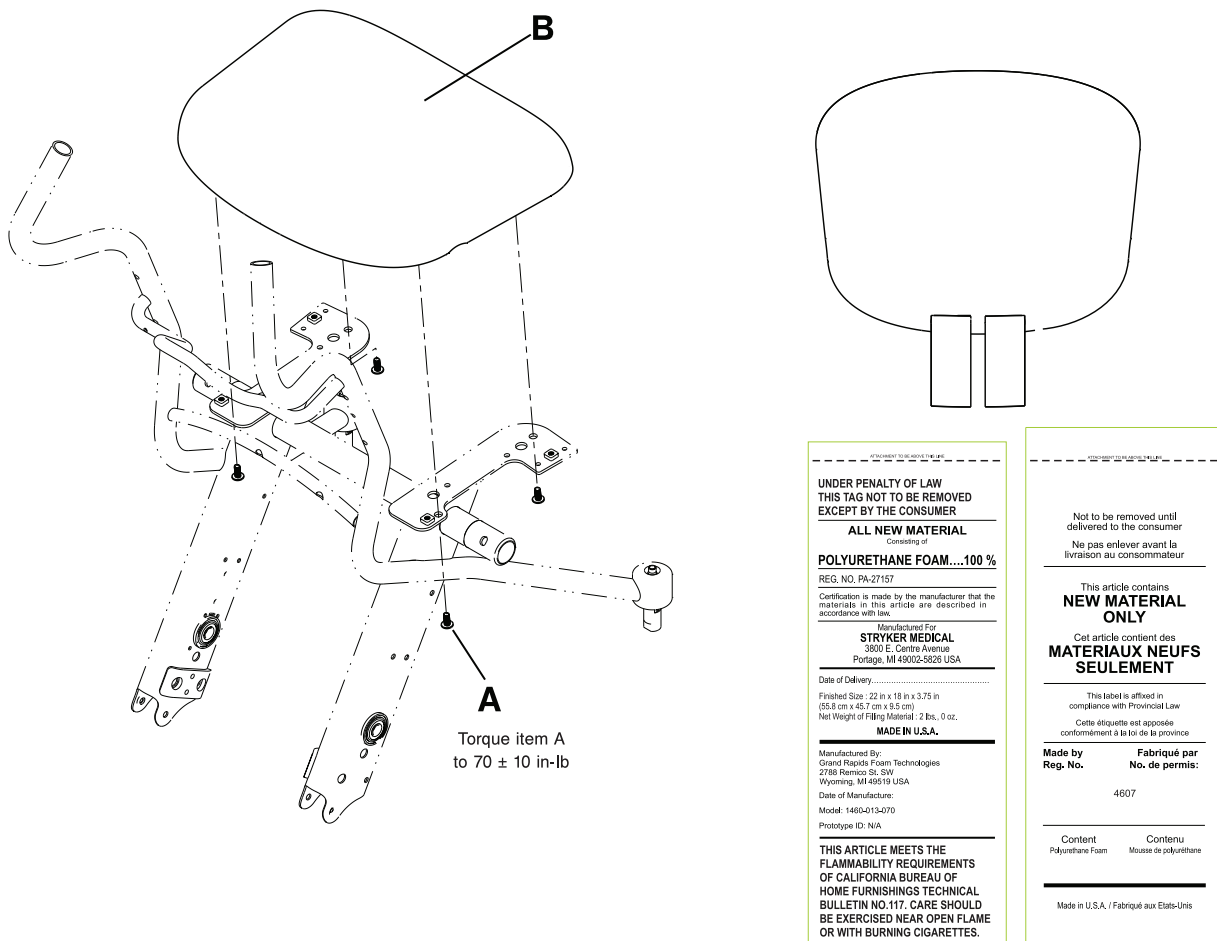

Figure 1-23: Seat replacement
1. Using a 3/16" hex wrench, remove the four button head cap screws (A) that secure the seat (B) to the chair frame (Figure 1-23 on page 1-39). Discard the seat and screws.
2. Using a 3/16" hex wrench, install the four supplied button head cap screws (A) to secure the supplied seat (B) to the chair frame. Using a 3/8" drive torque wrench, torque the screws to 70 ± 10 in-lb.